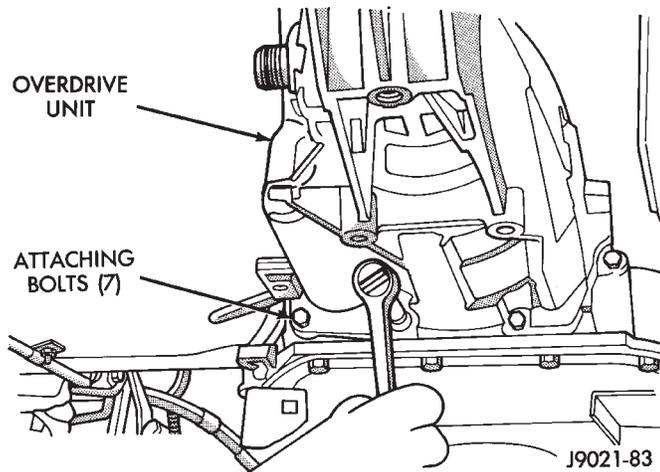

Fig. 58 Overdrive Unit Bolts
(6) If overdrive unit had malfunctioned, or if fluid is contaminated, remove entire transmission. If diagnosis indicated overdrive problems only, remove just the overdrive unit.
(7) Support transmission with transmission jack.
(8) Remove vehicle speed sensor.
(9) Remove bolts attaching overdrive unit to transmission (Fig. 58).